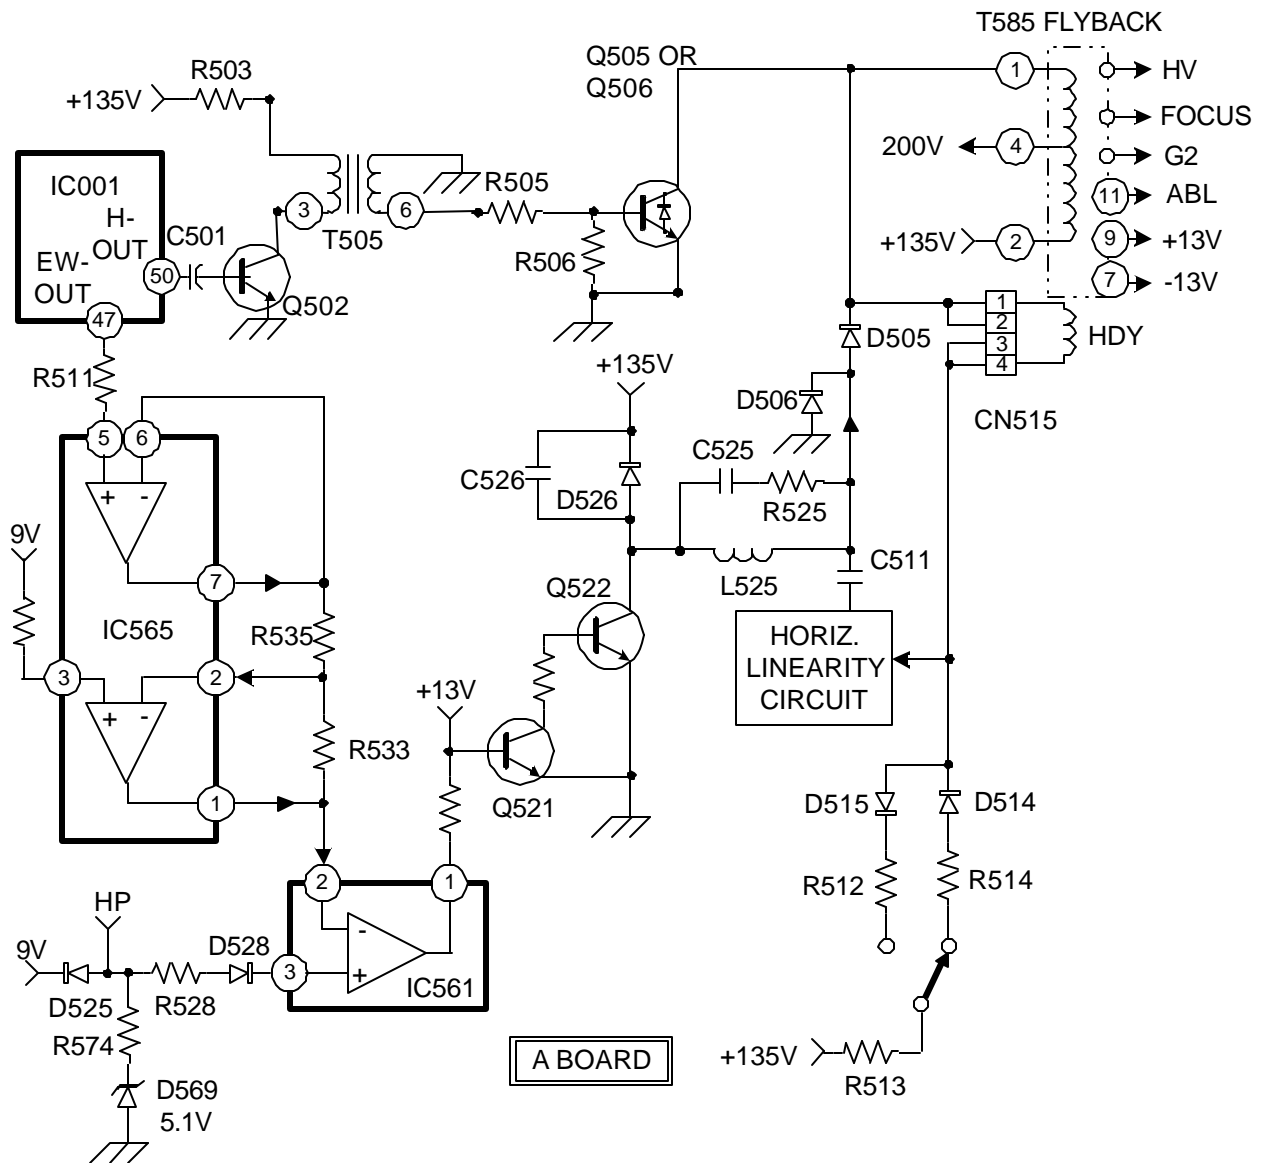

FIGURE 4-3 - HORIZONTAL DEFLECTION CIRCUIT
**Note:** Reference Figure 4-3 during troubleshooting descriptions.
#### Horizontal Failure conditions: (reference Figure4-3)
### Pincushion Circuit (reference Figure 4-3)